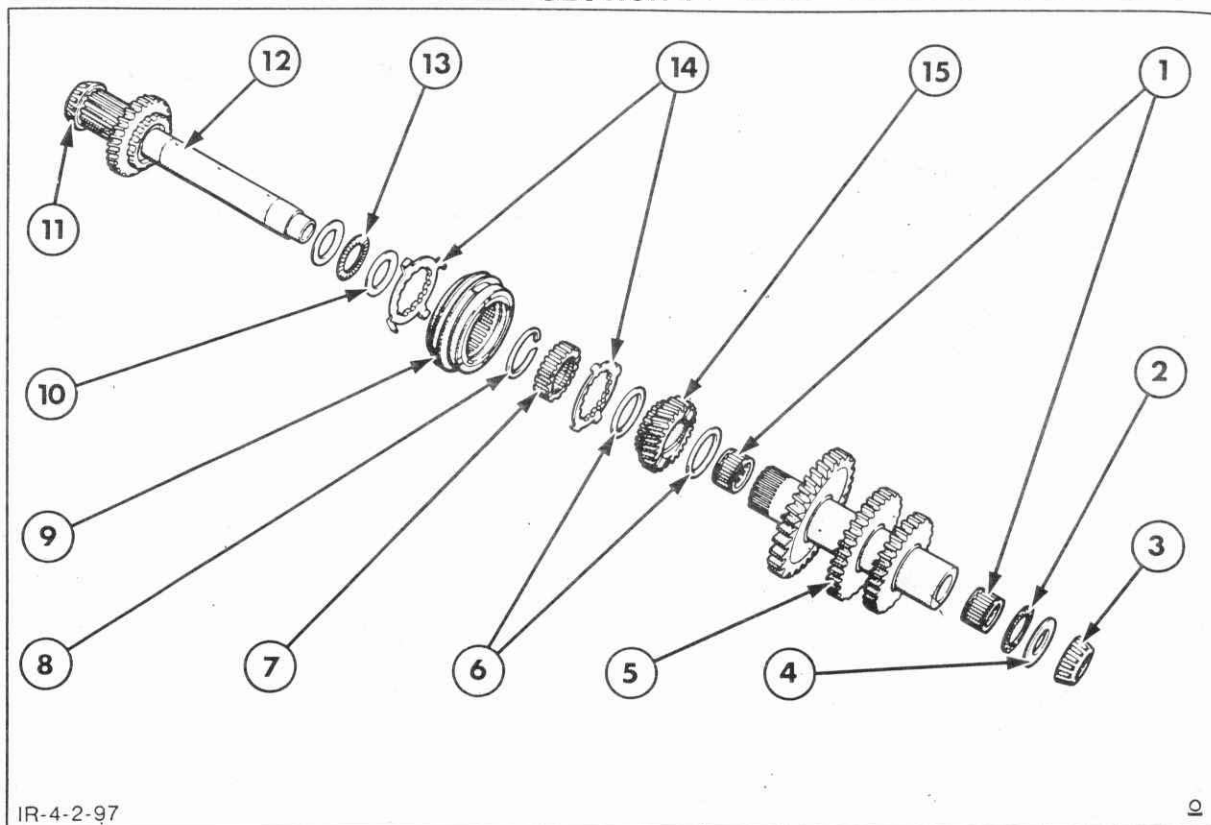

Figure 4-192
2. Remove the gear cluster and 1st/2nd synchronizer from the shaft together with the needle roller bearings, thrust bearings and thrust washers, Figure 4-192.
5. Normally, the countershaft rear bearing, Figure 4-192, need not be removed, however, if the bearing is worn or damaged it can be removed with a punch and hammer. If the bearing is removed, a new one must be installed as the cage will be damaged during removal.
1. Thoroughly clean the countershaft components, Figure 4-192, with suitable solvent, then blow dry with compressed air. Do not spin the bearings with compressed air.
Refer to Figure 4-192.